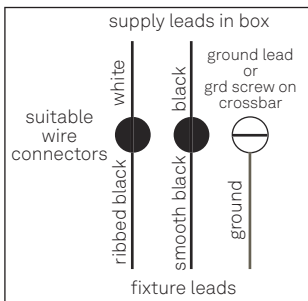

Figure 7. Wiring Diagram
- 8 With the fixture composition in-place, and while the fixture is still supported on the nylon all-thread rods, connect the exposed leads of the fixture to the leads in the electrical box according to the wiring diagram (Figure 7) using the wire and wire connectors provided.